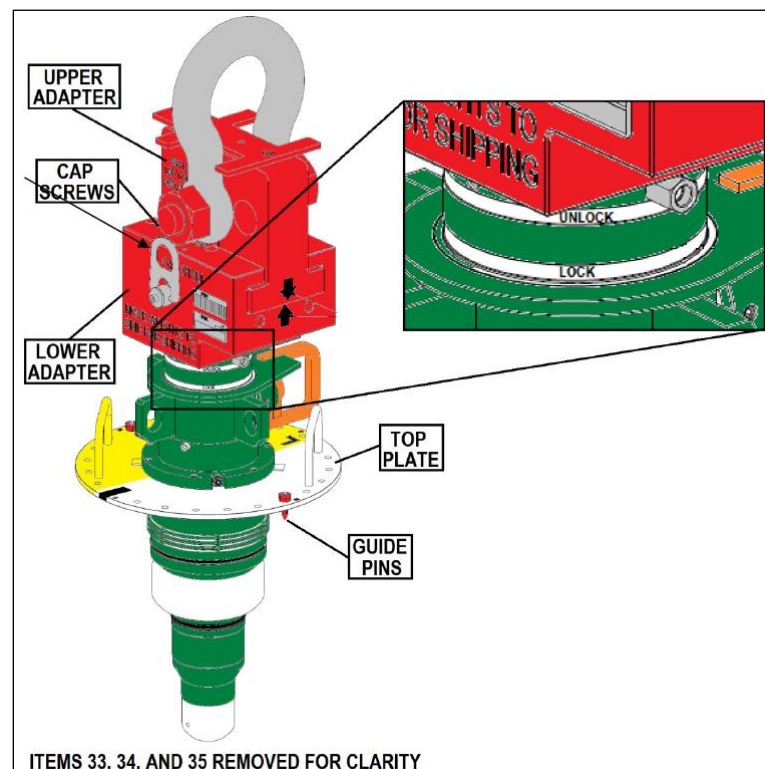

Figure 26: Front View of MTRT in Locked Position Showing Lock Groove on Main Body
Verify the top of the ROV Handle Guide lines up with the bottom of the "LOCK" groove on the Main Body. The "LOCK" groove must be fully visible. See Figure 26.
8. Have the ROV hold onto one of the two grab bars on the Top Plate and pull the ROV Handle out from the Main Body by about $\frac{1}{2}$ " and move the handle only a few inches to the left (CW) and release the handle. The ROV can then push the ROV Handle around the Main Body to complete the full $\frac{1}{4}$ turn in the CW direction until it is automatically retained in place in the fully "Locked" position. As the handle rotates around the tool, it will also translate vertically down.
- Verify the top of the ROV Handle Guide lines up with the bottom of the "Lock" groove on the Main Body. See Figure 26.